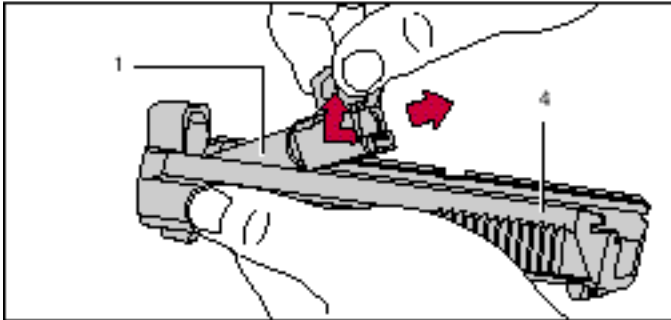

Fig. 12
8. Remove barrel 1 from slide 4 (Fig. 12).